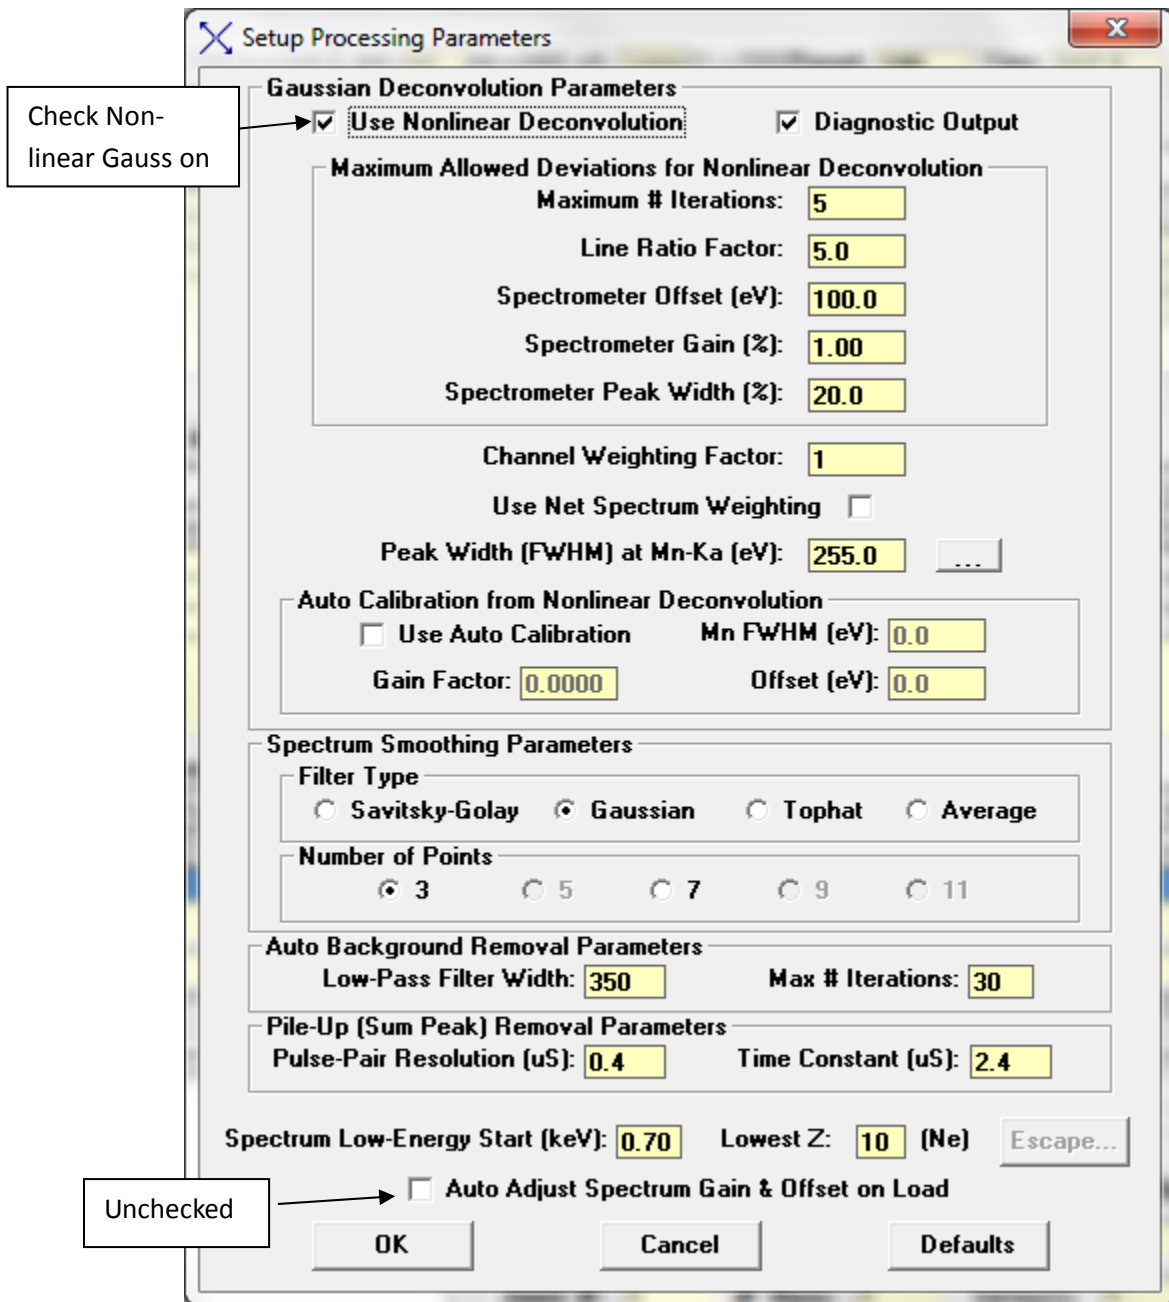
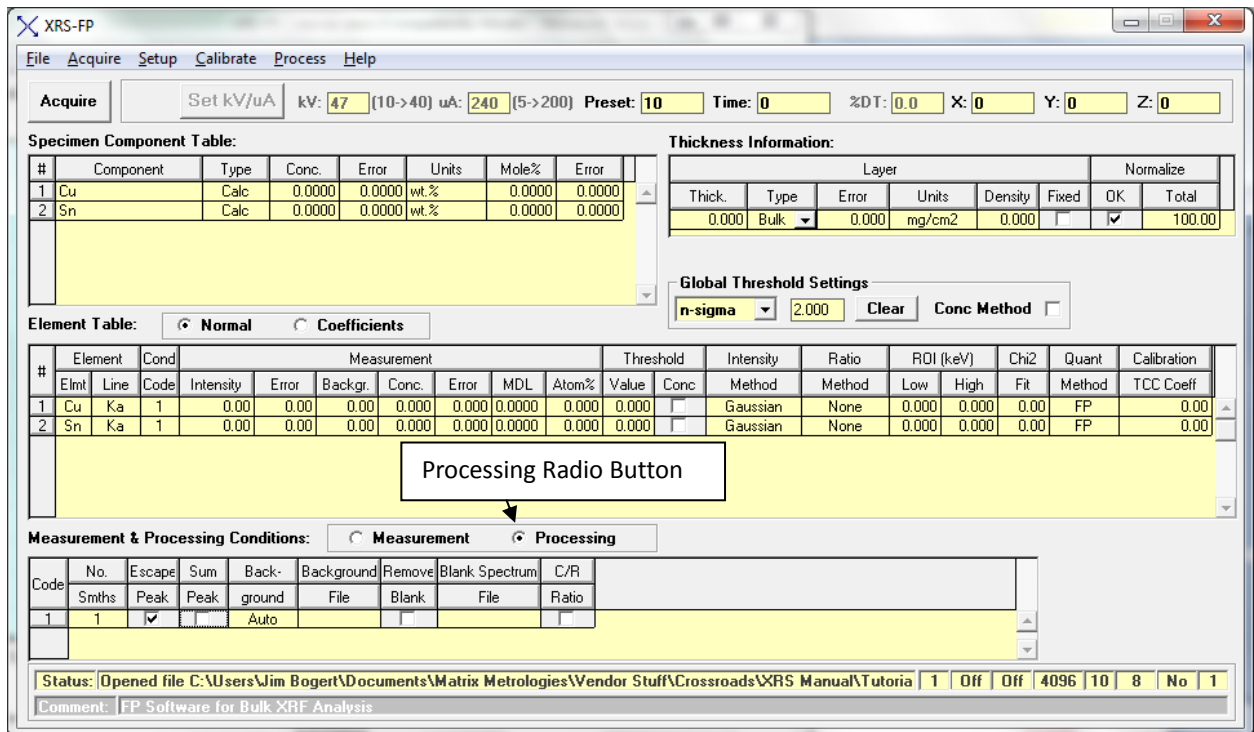
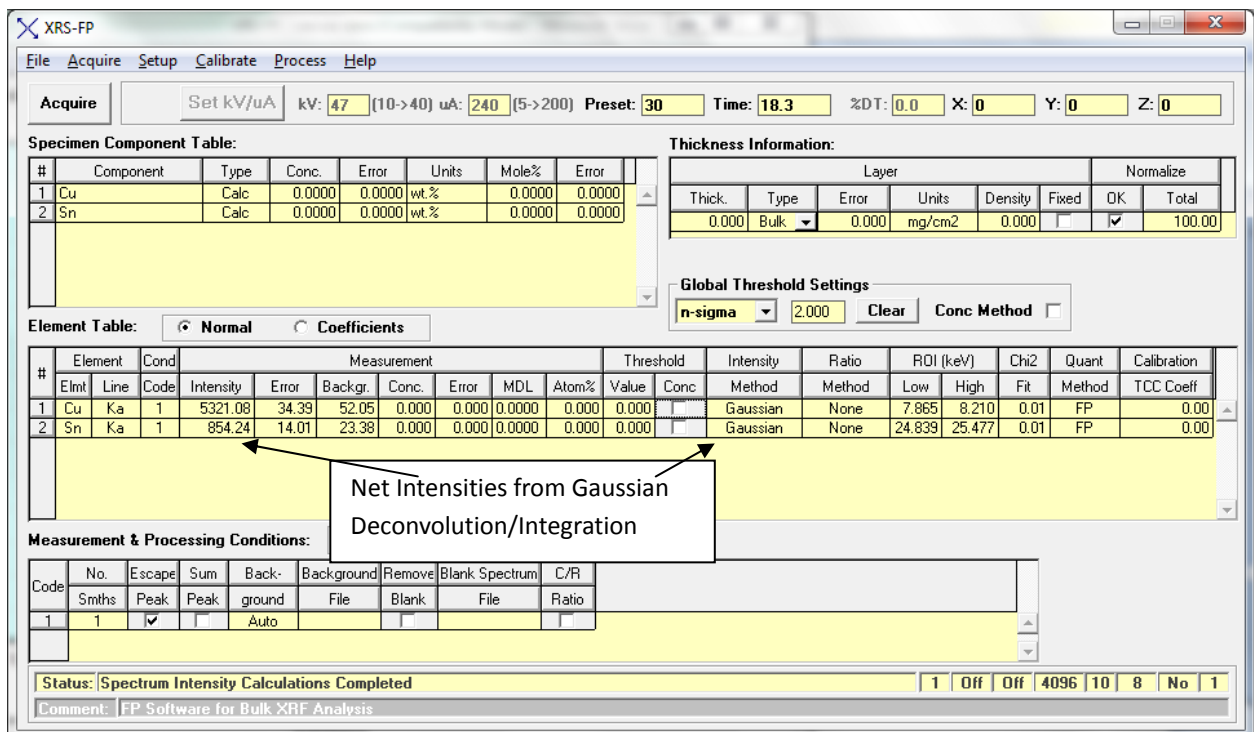

Figure 4
Figure 7
Figure 8
7. Spectrum Processing / Extracting Net Intensities (see Section 14.3, Process Spectrum of the XRS Software Guide): Spectra supplied for this tutorial have been energy adjusted (see section 12.11, Setup Spectrum Adjust of the XRS Software Guide). To avoid doing a double adjust, **from the XRS-FP Interface – Setup>Process> and make certain that the Auto Adjust Spectrum Gain & Offset on Load is unchecked, Figure 4, following.**
7.2. Spectrum Smooth, Escape Peak Removal Background Removal and Deconvolute: **Click the Processing Radio Button above the Measurement & Processing Conditions Table** to obtain the view of the XRS-FP Analyzer interface below – **Figure 7**, re section 3.1 and 3.2, Spectrum Processing of the XRS-FP Software Guide. We have chosen to apply one smooth function, remove escape peaks, and apply the Auto Background removal. Background low pass filter width parameter is set in **Setup>Processing** – see Figure 4 above. To apply these three functions and extract intensities from the XRS-FP Analyzer Interface **Click: Process>Spectrum>All** (Smooth-Escape Peak Removal-Background Removal-Deconvolution). There are several peak intensity extraction options. By clicking on the Intensity Method fields for the analyte lines of the Element Table these are displayed – Intensity, Gaussian and Reference. The tutorial uses the Gaussian fit of which there a 2, linear and nonlinear. Nonlinear is used here and is set as a processing parameter **Setup>Processing** (see Figure 4 above). Each Processing Function can also be applied manually (individually). Manual selection is very useful when selecting functions and associated parameters. Net peak intensities are extracted, integrated and displayed in the Intensity field of the Element Table of the XRS-FP Analyzer Interface. Intensities are expressed as count rates – counts/second - see Figure 8 below. Note that the intensities that you obtain may be slightly different from those displayed in Figure 8.